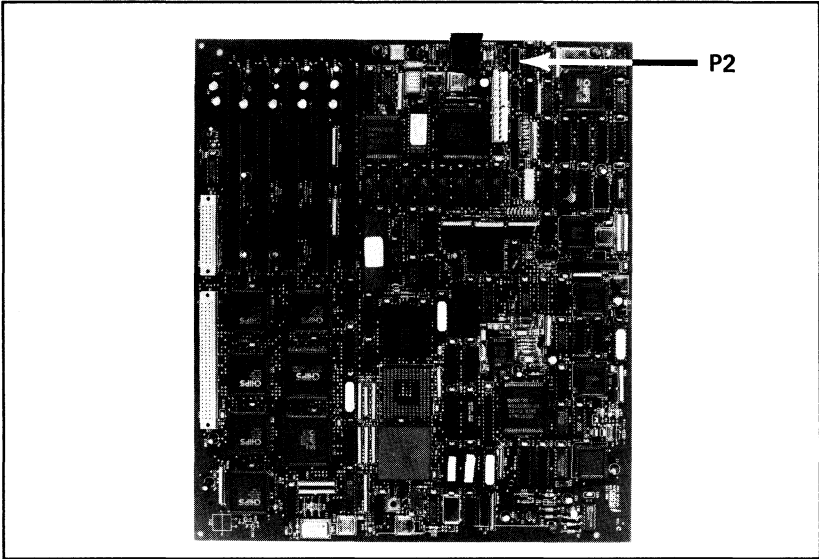

Figure 6-3. Location of the Clock/Calendar Battery Connector
2. Locate the battery connection point (P2) on the motherboard (Figure 6-3) and disconnect it.